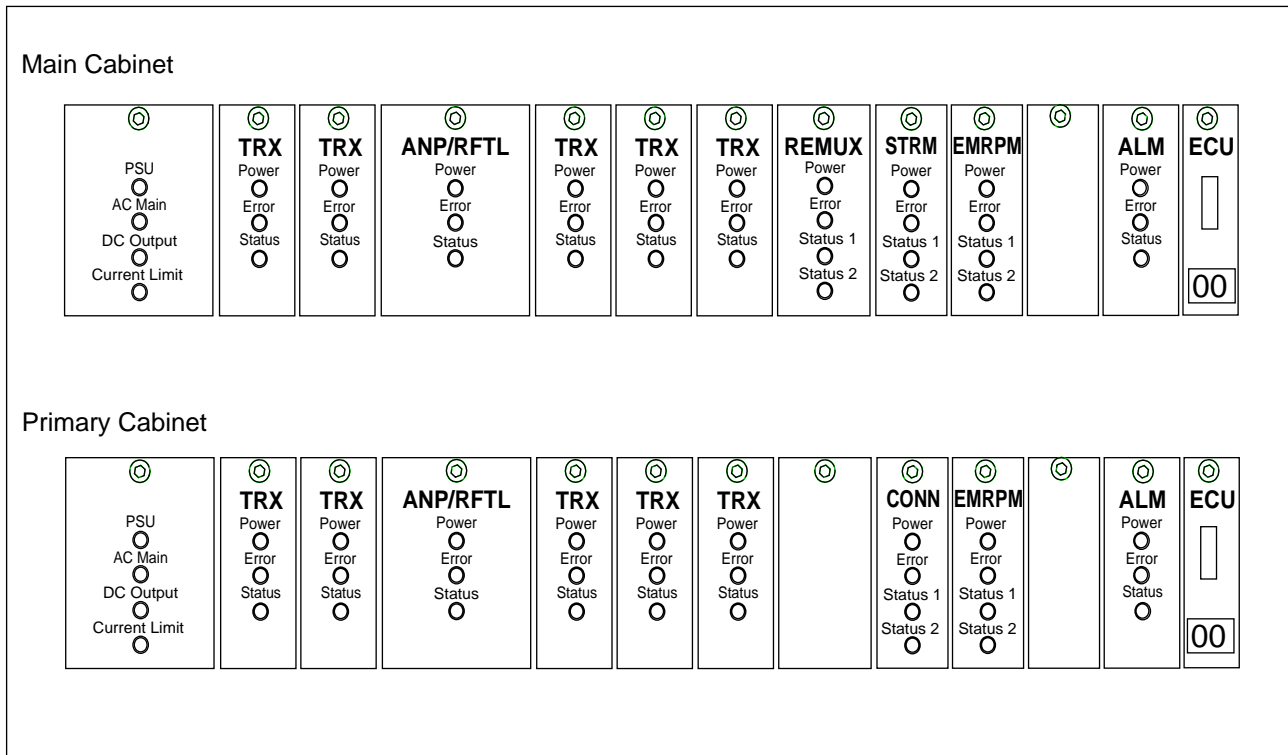

Figure 4-37. The Green Power LEDs and Red Error LEDs
6. Check that the green LED on each of the units in the cabinet is on (see Figure 4-37 on page 4-55).
8. Check that none of the red Error LEDs is on (see Figure 4-37 on page 4-55).